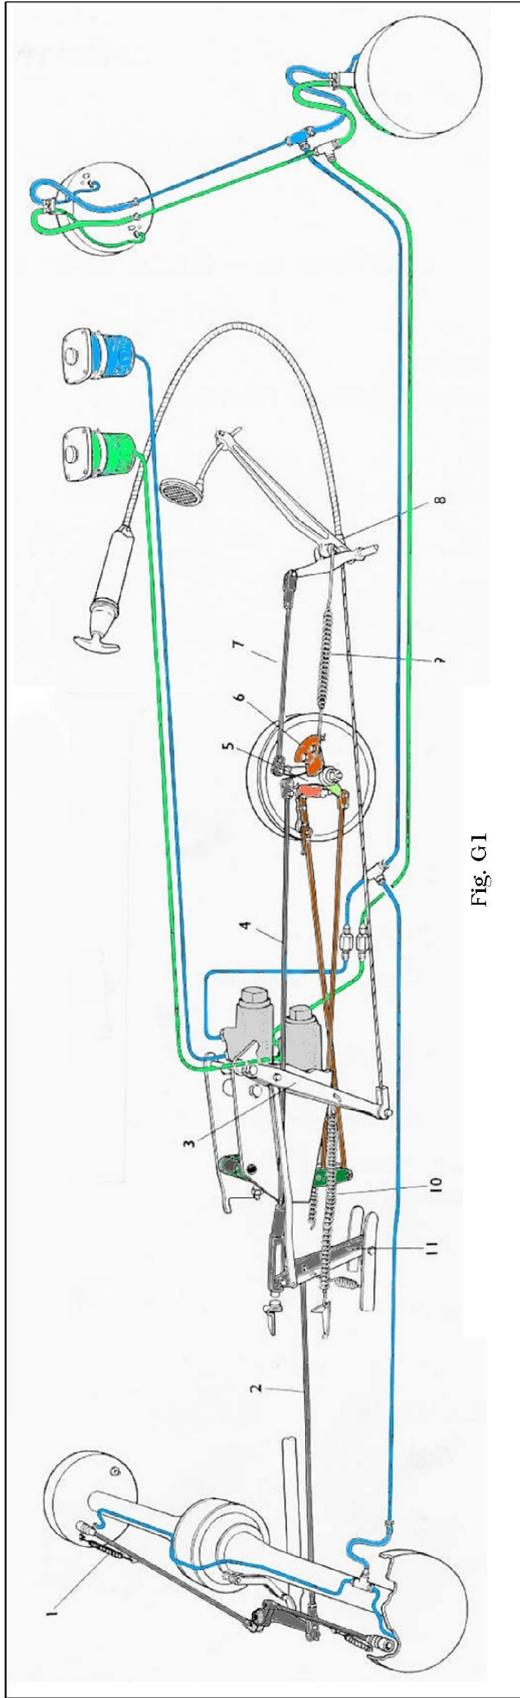

Fig. G1
Refer to Figure G1 and disconnect the following:
4. Front ends of rods 4 and 7 and the rear end of rod 2. (On Phantom V cars, two rods are fitted instead of the one numbered 2 in Fig. G1).
Refer to Figure G1 for all the following adjustments.